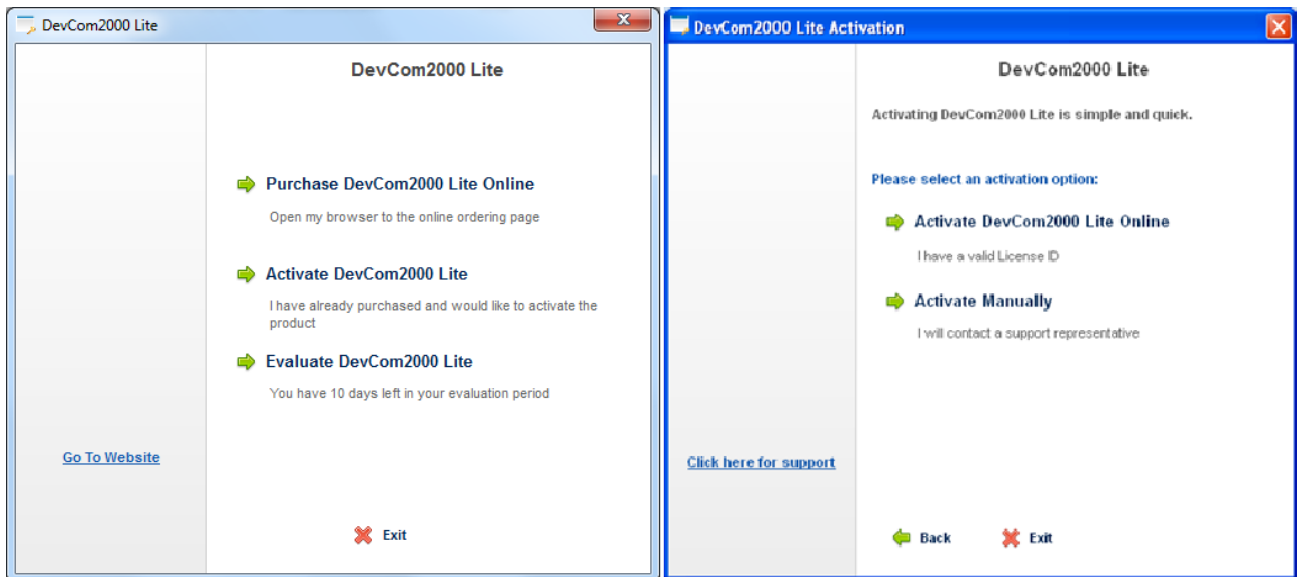

Figure 1 Initial Download Screen
3. Click Activate DevCom2000 Lite Online (See Figure 1)
The system in Figure 1 is made up of the following essential components: